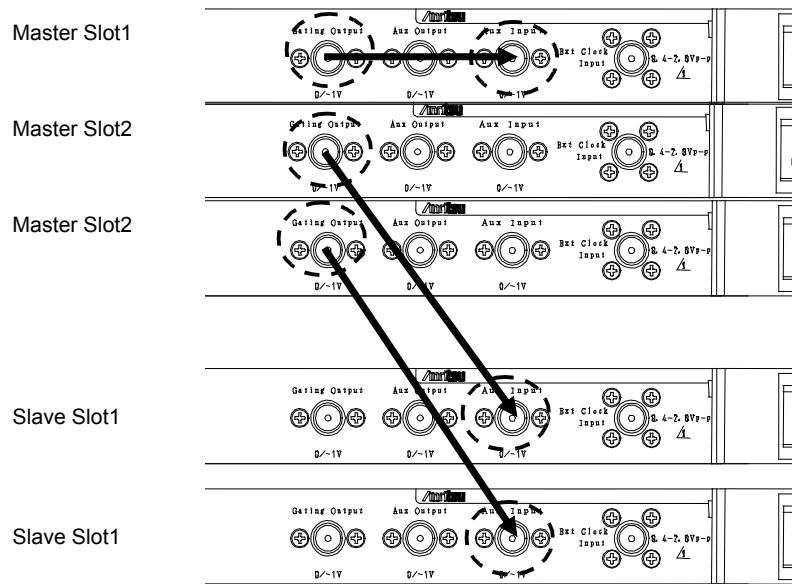
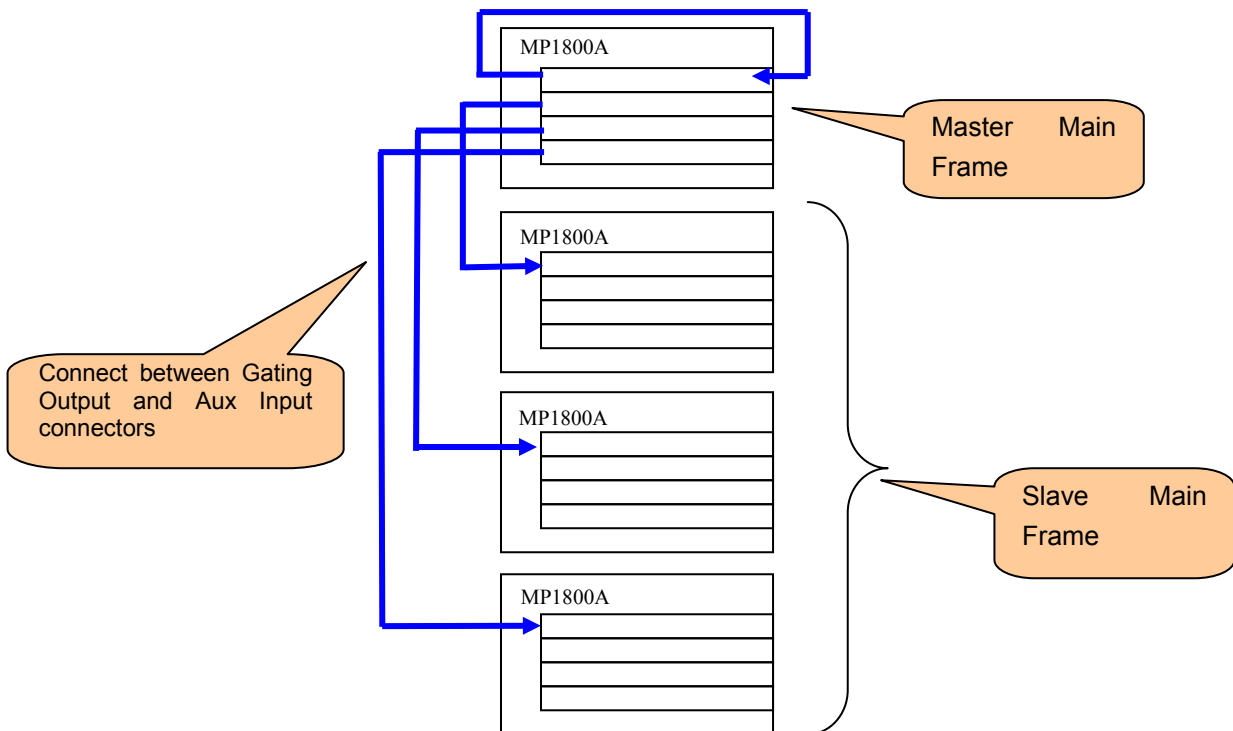

Figure E.1.1-1 MU181020A/B Connection Examples
Figure E.1.1-2 Connection Example for Four MP1800A Main Frame Units
2. The Gating Output connector of the MU181020A/B module in Slot 1 of the master MP1800A is connected to the AUX Input connector of the same module (Figure E.1.1-1).
3. The Gating Output connectors of the MU181020A/B modules in Slot 2 to Slot 4 of the master MP1800A are connected to the AUX Input connectors of the MU181020A/B modules installed in Slot 1 of each slave MP1800A (Figure E.1.1-1 and Figure E.1.1-2).